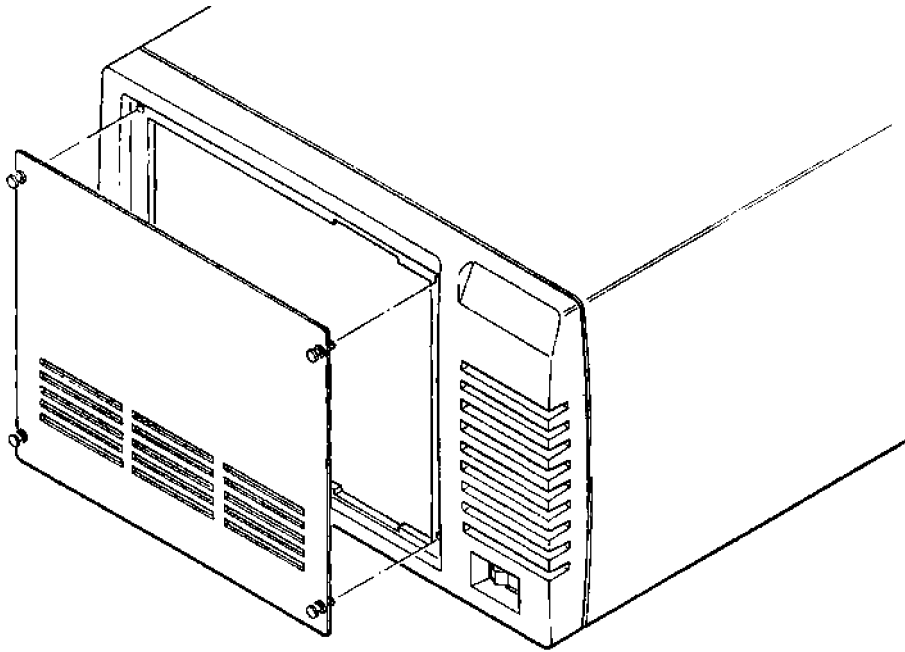

Figure C-1.
3. Loosen the front panel by pulling out the fasteners located in each corner, and then remove the panel. (See figure C-1.)